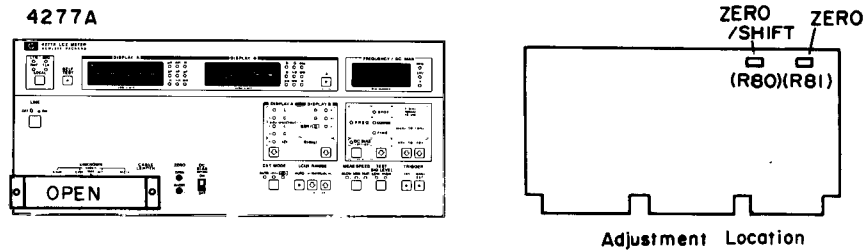

Figure 5-6. Integrator Adjustment Setup.
1. Connect the OPEN termination of the 16074A directly to the UNKNOWN terminals as shown in Figure 5-6.